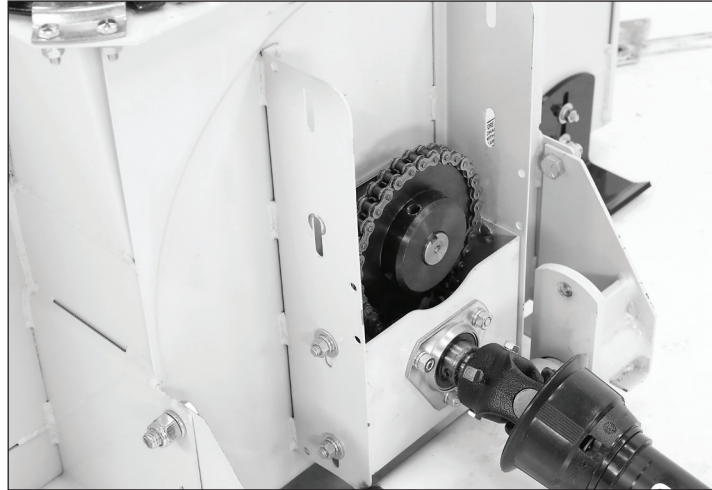

Figure 4.4: PTO Guard Removed
1. Remove the bolts securing the PTO guard to the frame and remove the guard as shown in Figure 4.4.